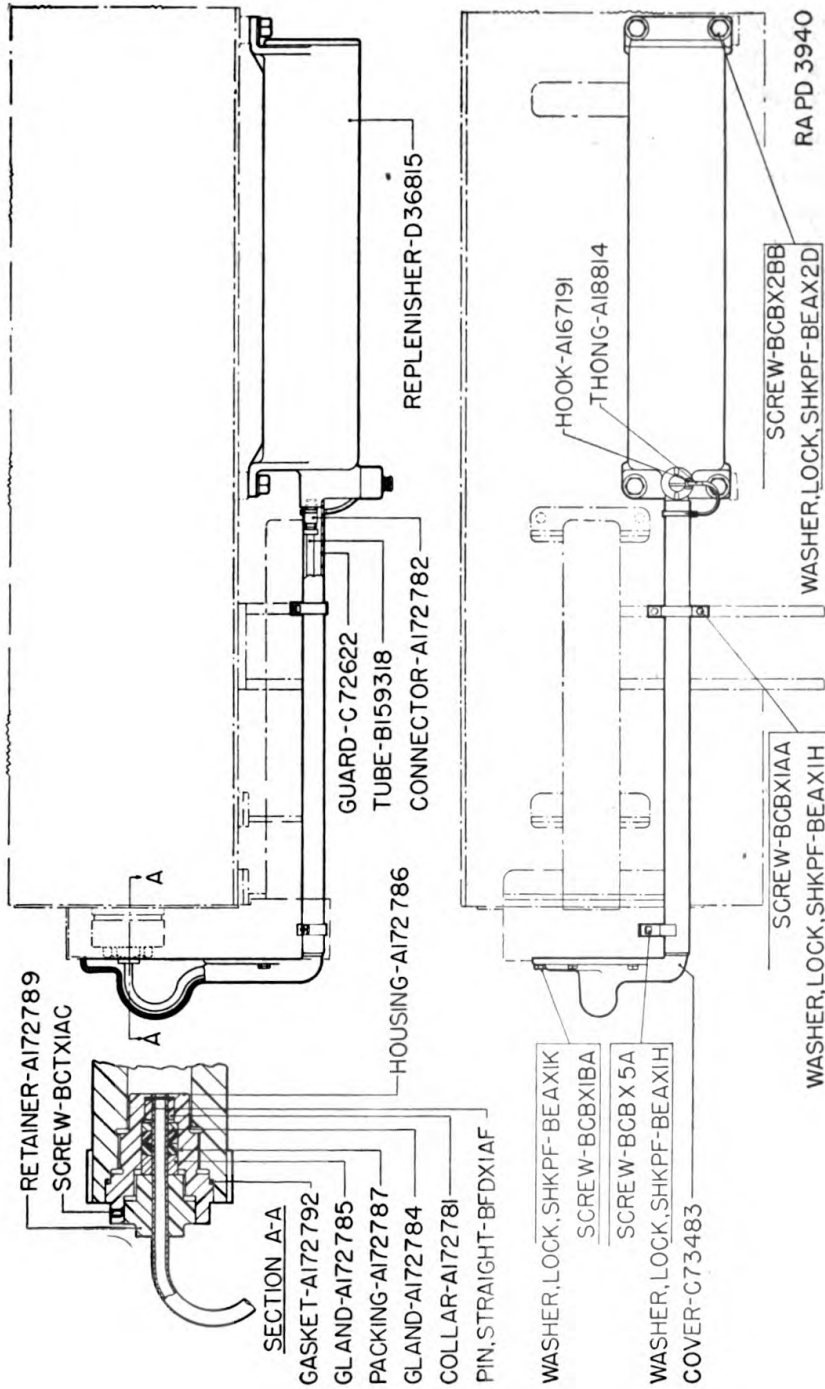
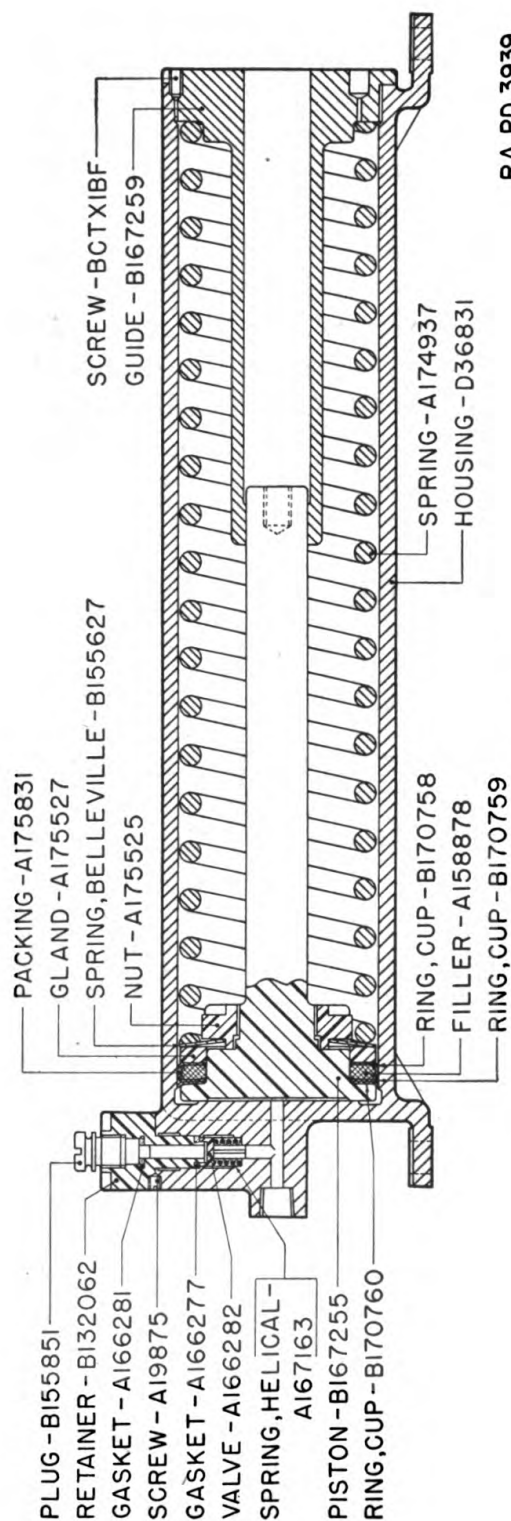

FIGURE 33.—Replenisher and connections.
Figure 34.—Replenisher.
b. Disassembly of the replenisher.—(1) Release the reserve oil in the replenisher. Disassemble the guard (C72622) and tube (B159318) (fig. 33) from the replenisher. Remove the screw retaining the replenisher to the cradle. Fit the assembly beneath the spindle of a drill press with the front end up. Bear down on the replenisher piston guide (B167259) (fig. 34) with the drill press spindle as the guide is unscrewed from the cylinder, so that expansion of the spring will not damage the threads of the cylinder or guide as the guide is unscrewed from the cylinder. Withdraw the piston